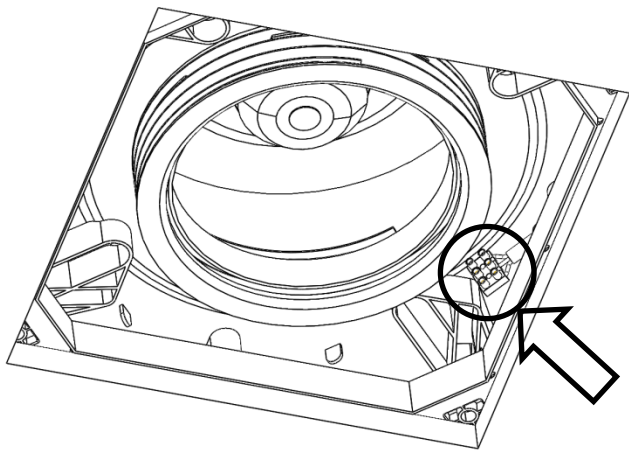

Figure 8 – 3 Pole terminal block
- From inside the caravan look up and locate the unit's 3-pole terminal block. Figure 8